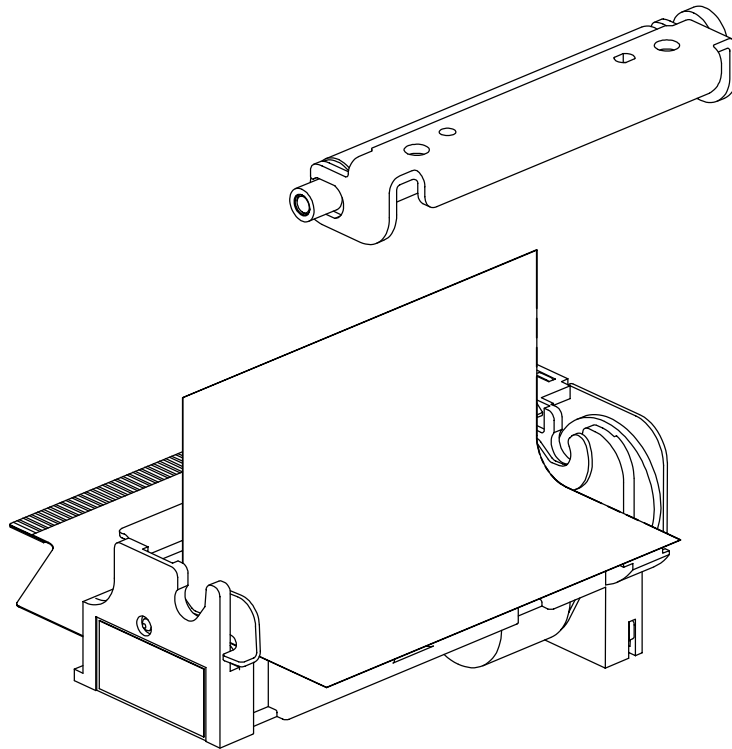

Figure 8-4 Loading Paper (2)
- Insert the paper vertically into the printer. (See **Figure 8-4**.)